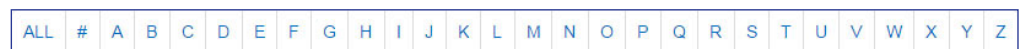

Figure 9. Alphabetic Navigation Bar
3. If there is no direct link to your software or firmware, click the **Software** link (②) and scroll down to the alphabetic navigation bar (see figure 9).